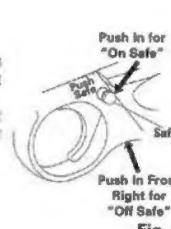

Fig. 2
- Push the safety from the left side all the way in. (Fig. 2) The safety is not on unless it is pushed all the way in and the red ring around the safety is not showing. The airgun will not fire when "on safe".